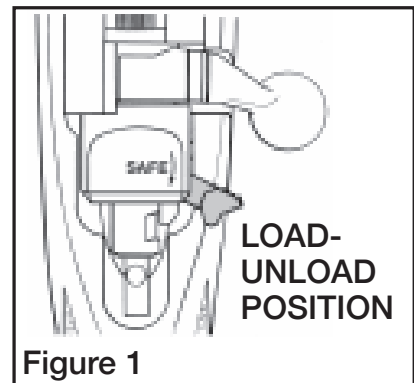

Figure 1
1. **Keep the rifle pointed in a safe direction!** Put the safety in the “Load-Unload” (middle) position. See Figure 1.